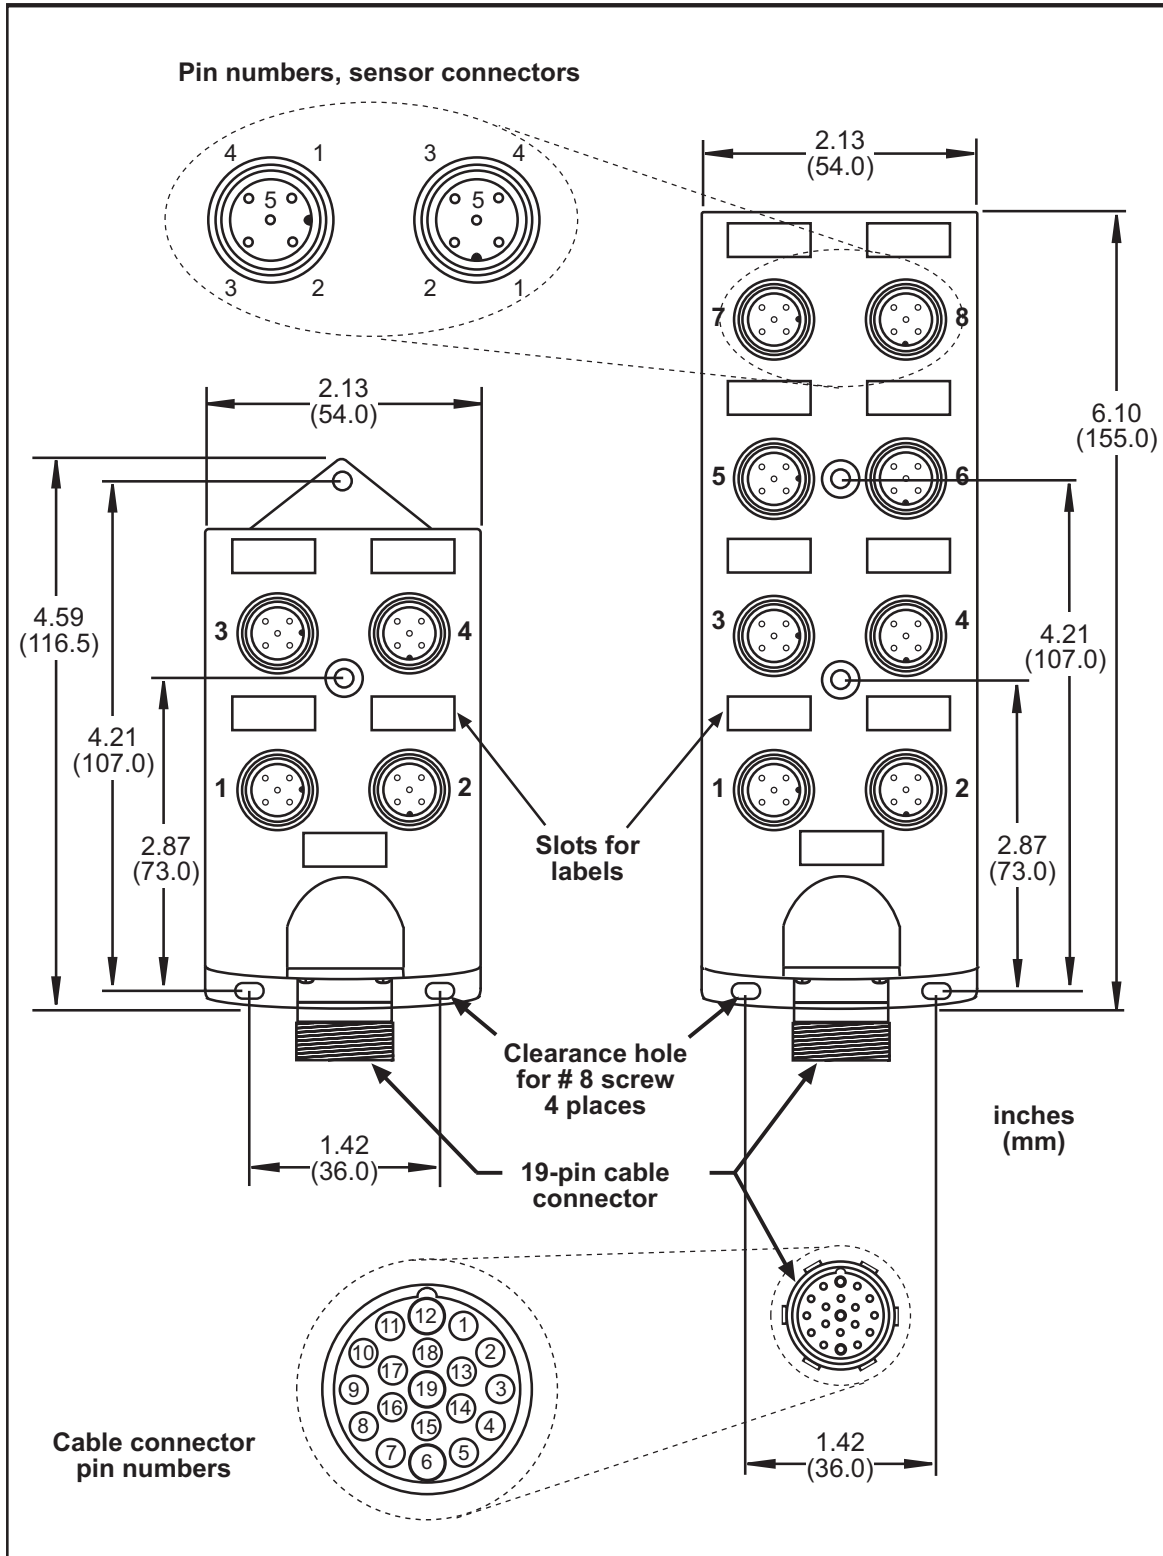

Figure 3-2. HDP Junction Box: Mounting Dimensions and Connector Pin Locations
Your die-mounted sensors plug into one or more HDP junction boxes, which are mounted on the die. HDP junction boxes are available in 4-port and 8-port versions. Mount the junction boxes as follows, referring to Figure 3-2, page 3-4 for mounting dimensions:
2. Drill and tap holes for four 8-32 mounting screws. See Figure 3-2 for hole locations.
After you have wired your sensors to the five-pin HDP connectors, plug the connectors into the HDP junction box, referring to Figure 3-2 for sensor number locations.